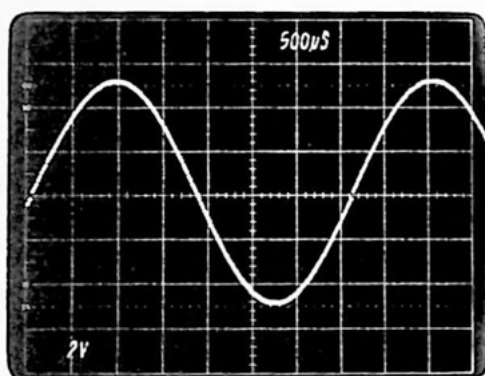

Figure 6-21
Step 19 — Execute the assembly language program as before by entering the command, EXEC 8000 (or 4000). Observe the oscilloscope display. You should observe the sine waveform pictured in Fig. 6-21.